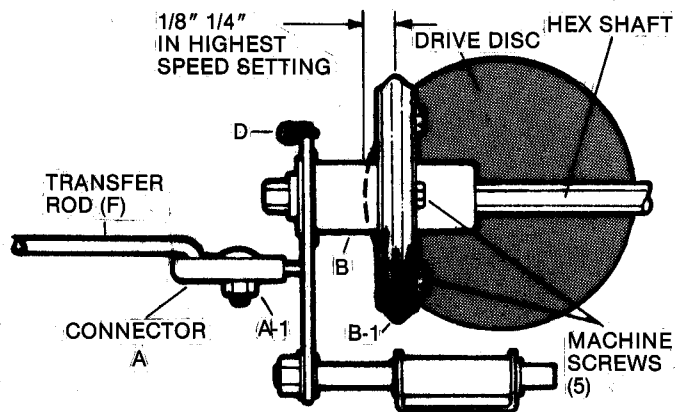

FIG. 13 -DRIVEN DISC COMPONENTS
DRIVEN DISC ADJUSTMENT: Stop the engine and shift the GROUND SPEED CONTROL (12) into the highest setting. The CENTER of driven disc should be 1/8" to 1/4" from the EDGE of the drive disc as shown in FIG.13. To re-adjust, loosen connector hex nut (A-1) and slide the driven disc in or out as required. Re-tighten connector hex nut to secure the driven disc in the proper position.